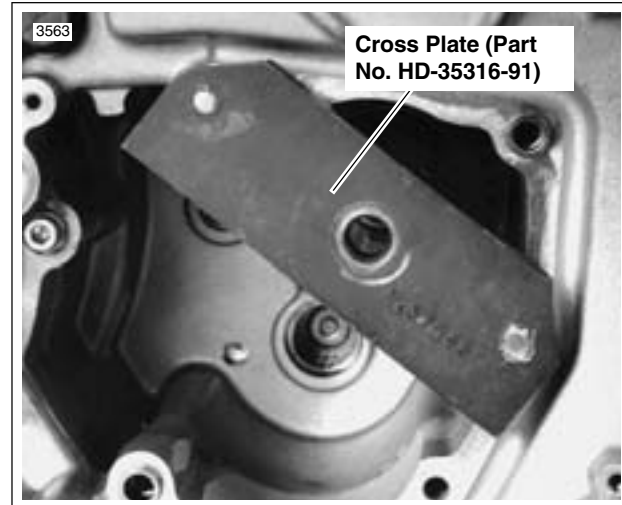

Figure 6-54. Cross Plate Mounting
1. Locate MAIN DRIVE GEAR REMOVER AND INSTALLER (Part No. HD-35316-A). See Figure 6-54. Place support bracket pins in appropriate holes in transmission case.